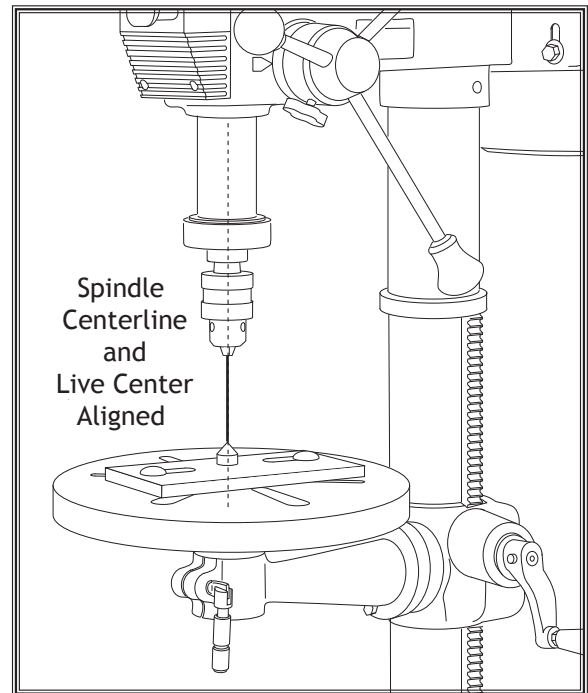

Figure 4. Live center to spindle alignment.
7. Move the base so the tip of the live center is aligned with the spindle centerline, as shown in **Figure 4**. Next, tighten the base hex nuts.